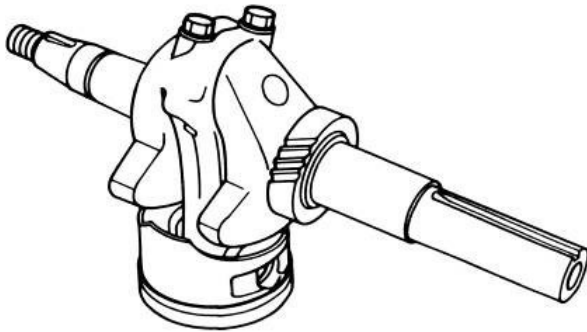

Figure 4-42: Measure Connecting Rod Oil Clearance
3. See Figure 4-42. remove connecting rod cap and measure the Plastigauge® to verify the oil clearance is within specification.